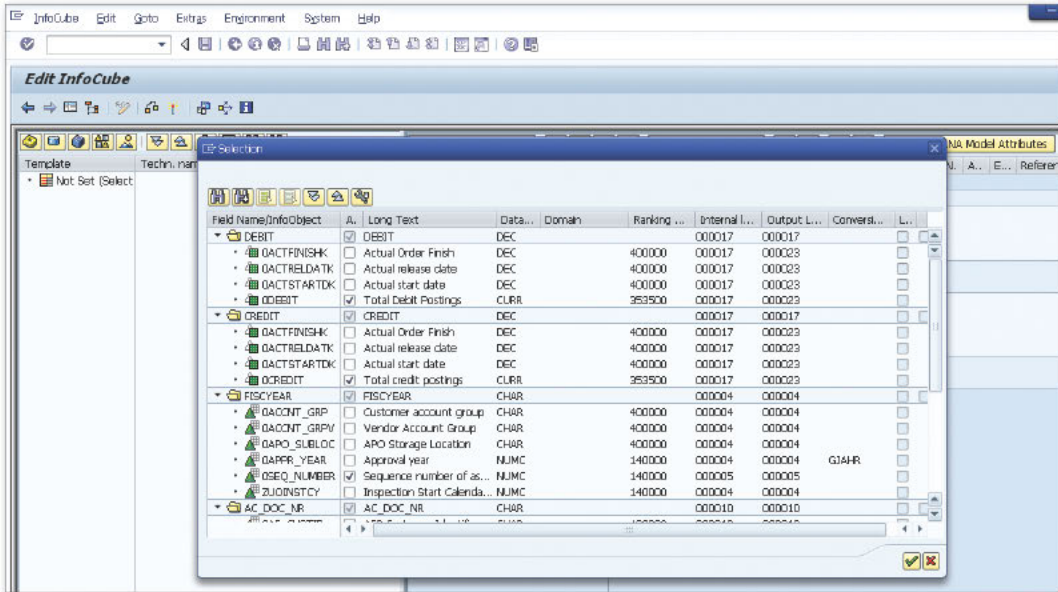

Figure 3 Identifying the SAP NetWeaver BW InfoObjects to Map the SAP HANA Fields
7. In the next screen, shown in Figure 3, identify the SAP NetWeaver BW InfoObjects that you are going to use to map the SAP HANA analytical view fields.